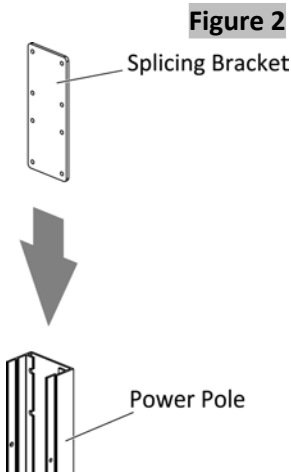

Figure 2
5. Insert the splicing bracket into the power pole, (Figure 2).